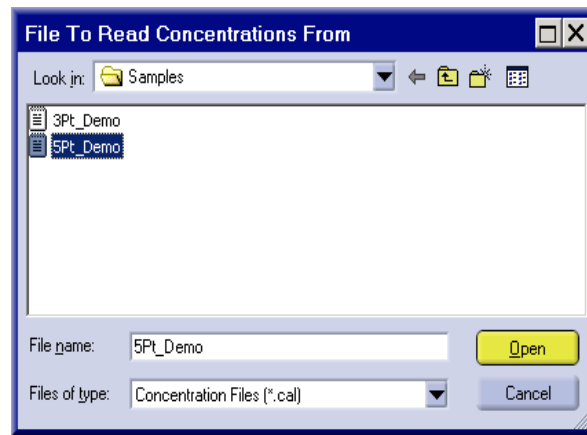

Figure 2-4 *File to Read Concentrations From Window*
2. The *File to Read Concentrations From* window opens, displaying a list of available CAL files (Figure 2-4). Go to the Samples directory and select the example .CAL file for this exercise, **5Pt_Demo**.